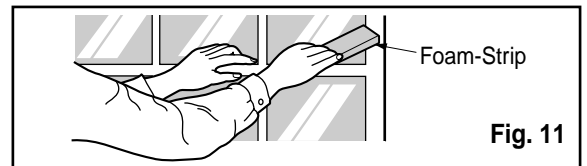

Fig. 11
8. Cut the Foam-strip to the proper length and insert between the upper window sash and the lower window sash.(See Fig. 11)